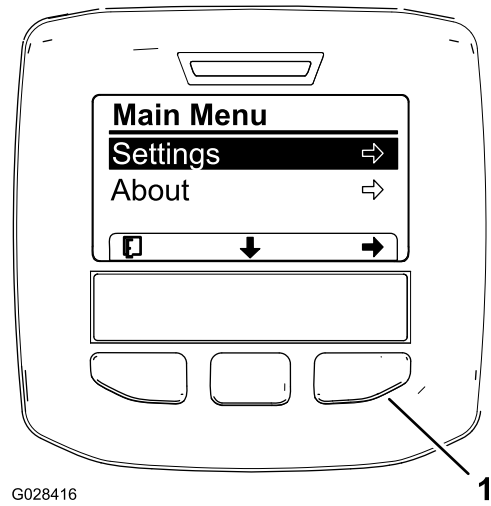

Figure 28
3. Press the center selection button to access the Main Menu (Figure 28).
5. Press the left selection button to save your selection(s), exit the Settings menu, and return to the Main Menu (Figure 28).
- Press the left selection button to exit the Settings menu and return to the Main Menu (Figure 28 and Figure 30).